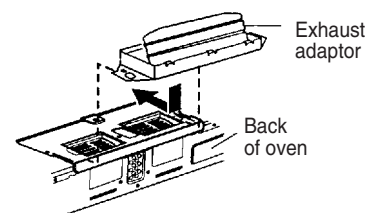

Figure 22
8. Attach the exhaust adaptor to the blower plate by sliding it into the Guide. See Figure 22.